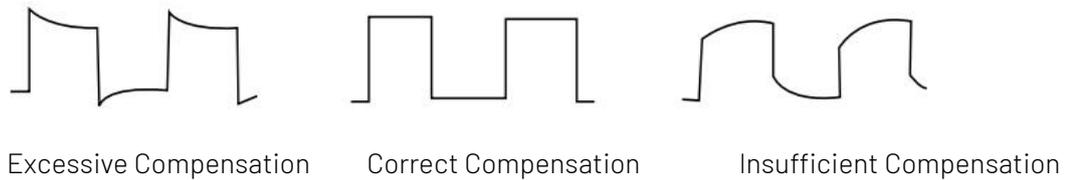

Figure 4-2 Compensating Calibration of Probe
- ① Set the attenuation coefficient in the probe menu and the switch on the probe to 10x, and connect the probe to CH1. Make sure the probe's connector is properly connected with the oscilloscope. Connect the probe's main clip and ground clip to the oscilloscope's compensating signal and ground terminal respectively. Open CH1 and press the AUTO button.
- ② View the displayed waveform, as shown in Figure 4-2.